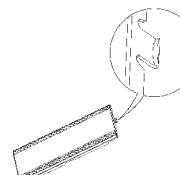

Figure 2
2. Align the protruding fastener at the end of the holder (See Figure 2) to the sunken positions on the inner sides of the 2 wheels (See Figure 3) and press them down. Then both ends of holder will be locked.